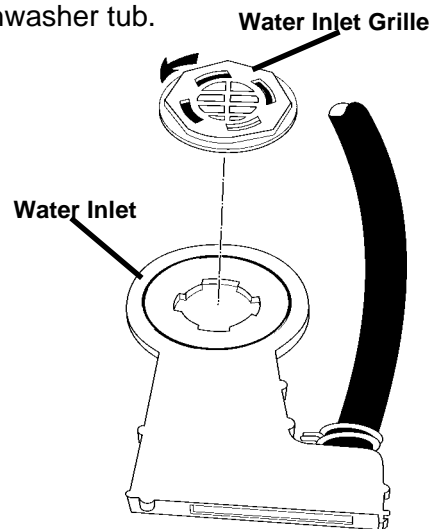

Fig. 3-12
1. From the inside of the tub, use a small pair of Channel Locks™ and turn the inlet grille ¼ turn counterclockwise and remove the grille. (Fig. 3-12)